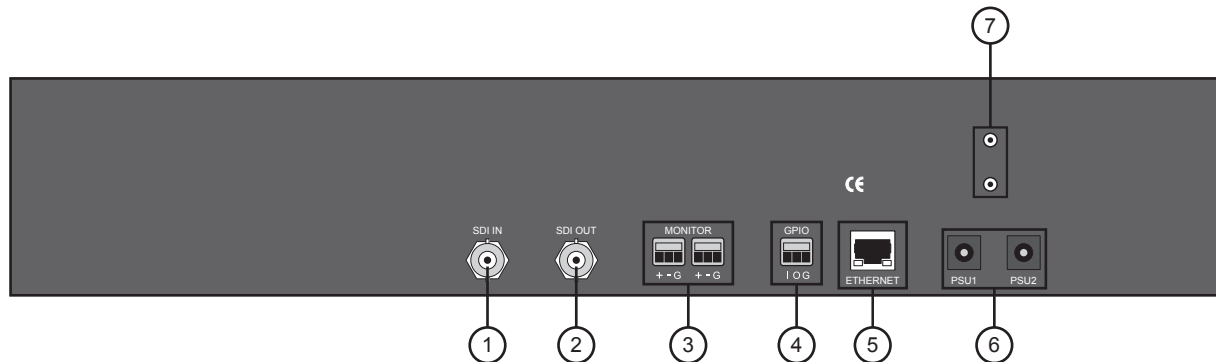

Figure 2.2 MB-650 — Rear Panel
2. Connect the DC plug to the power jack located on the rear panel of the MB-650. Refer to **Figure 2.2** for power connection location.